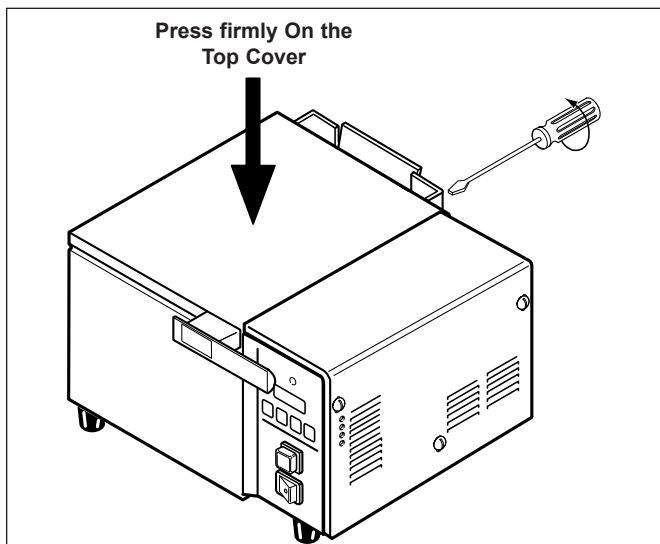

Figure 12. Top Cover Adjustment
2. Push down on the top cover heavily (Figure 12). This ensures the gasket is seated squarely around the generator. While maintaining the downward pressure, re-tighten the screws.